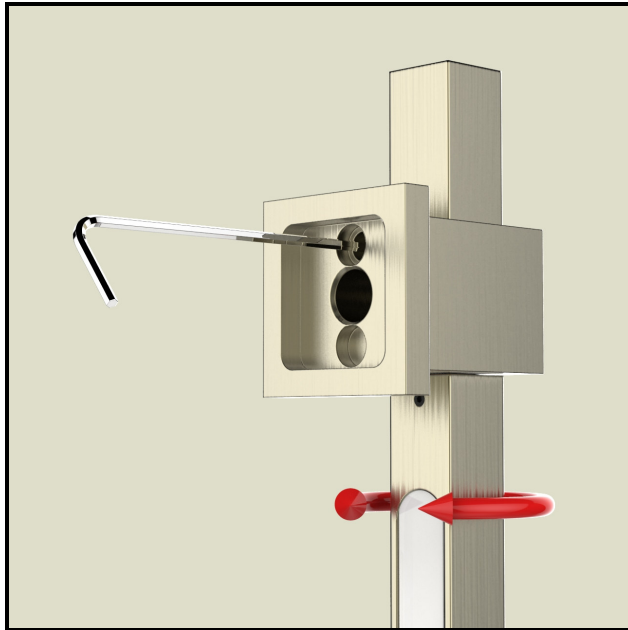
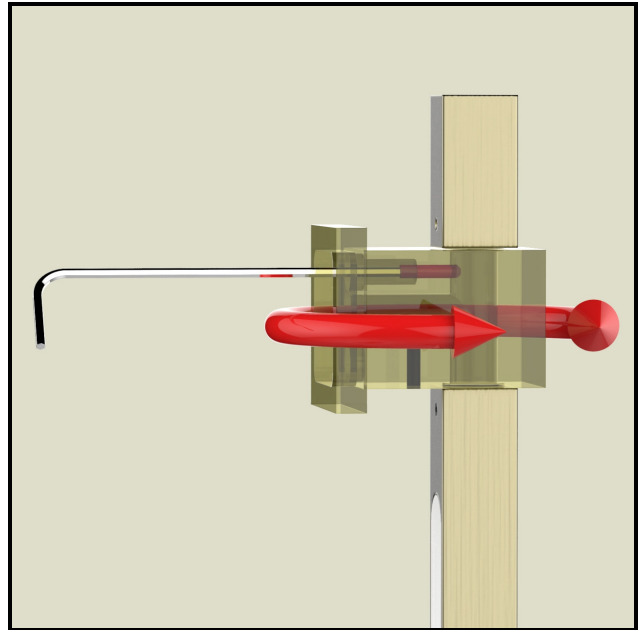

Figure 3
Figure 4
- To reverse light bar direction, insert hex key into arm block (Figure 3). Loosen set screw, shown red (Figure 4) until the arm block can be freely rotated 180 degrees. When light bar is oriented in the opposite direction, re-tighten set screw.